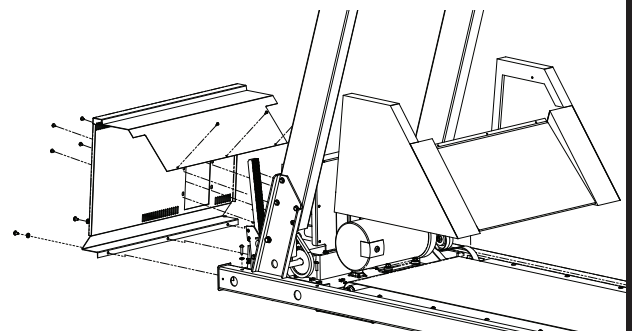

Figure 3
9. To install the hood cover, place the cover over the tab on the hood (Figure 3).